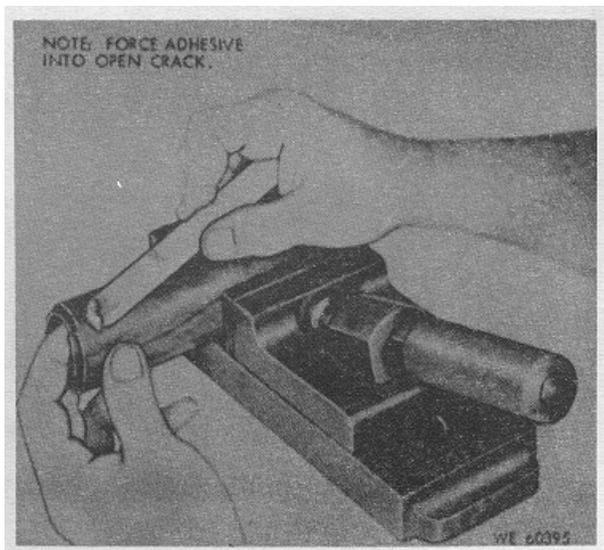

Figure 3-6. Repairing damaged wooden hand guard using epoxy adhesive (M1 Rifle).
f. Repair wooden hand guards (fig 3-6). Hand guards can be repaired using epoxy adhesive and / or brass reinforcing screws. Unless the separation is extreme, epoxy adhesive alone will